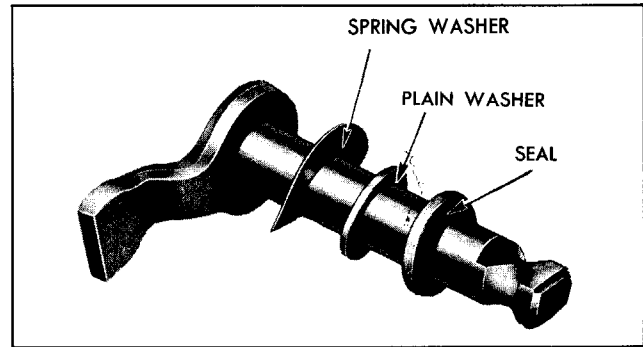

Fig. 7-38 Selector Shaft Inner Lever and Seal
9. Coat shaft and washers of inner selector lever (Fig. 7-38) with Lubriplate 105, arrange oil seal, plain washer, and spring washer on shaft of lever, and install inner selector lever in case.